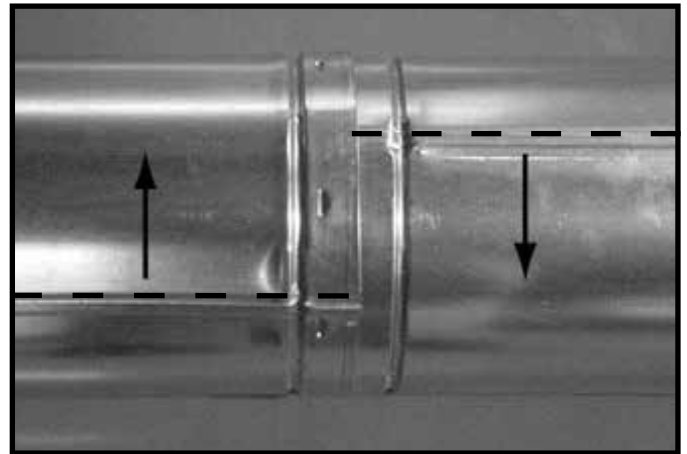

Figure 7.10 Rotate Seams for Disassembly
- Rotate either section (see Figure 7.10) so the seams on both pipe sections are aligned as shown in Figure 7.11.